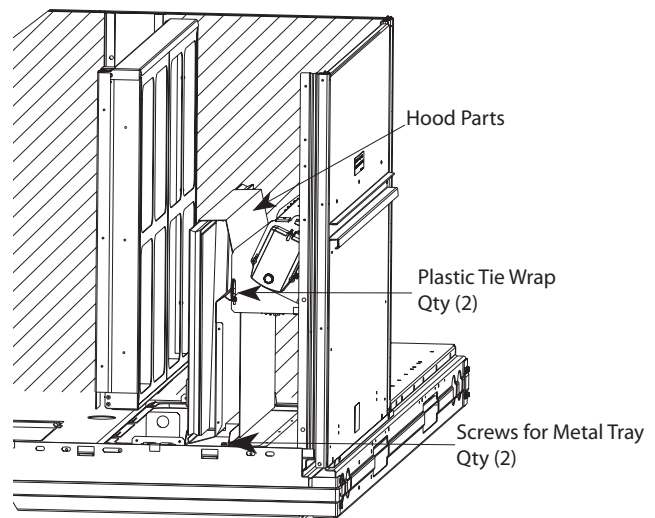

Fig. 10 — Economizer and Two-Position Damper Hood Parts Location
Locate the carton containing the outside air hood parts; see Fig. 10. Do not remove carton until unit has been rigged and located in final position.
3. Locate the (2) screws holding the metal tray to the basepan and remove. Locate and cut the (2) plastic tie-wraps securing the assembly to the damper. (See Fig. 10.) Be careful to not damage any wiring or cut tie-wraps securing any wiring.